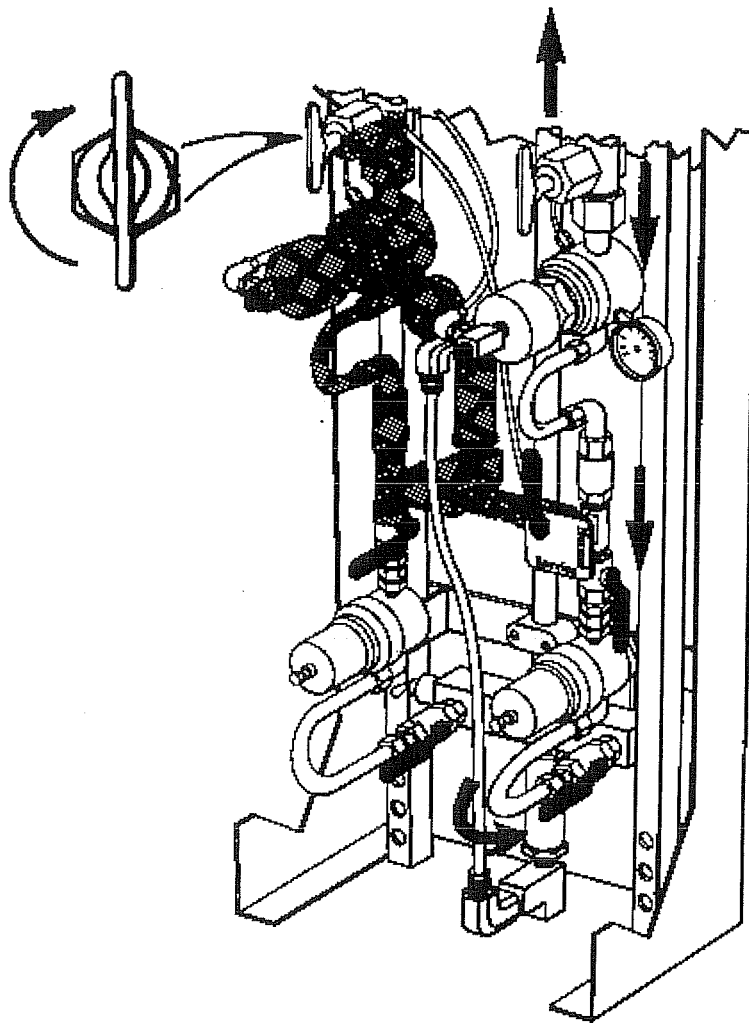

Figure 4-7
2. Close the left upstream line regulator valve, service valve, and left bank shutoff valve. (Figure 4-7)